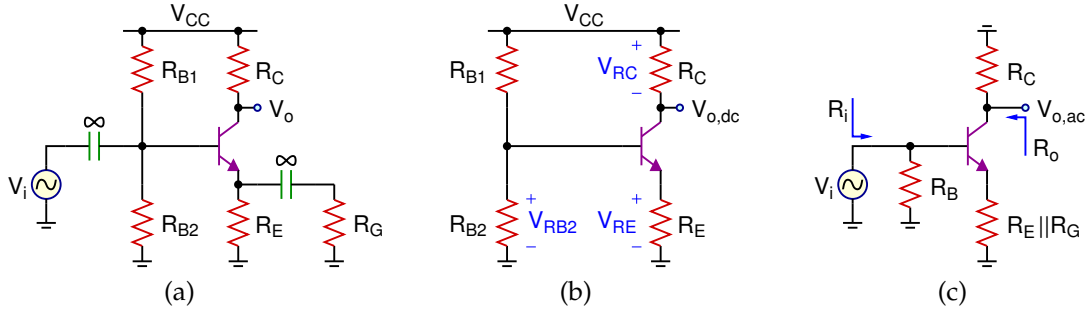
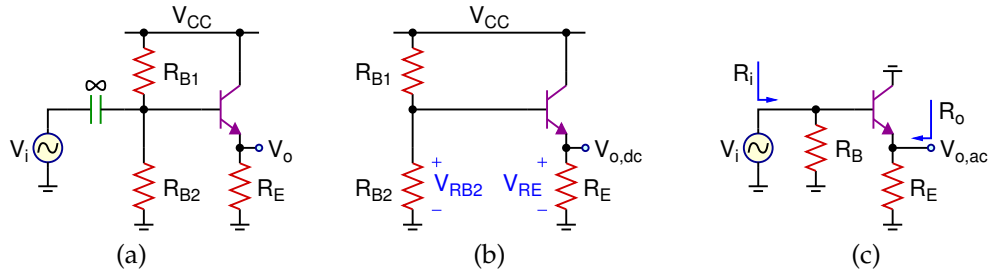
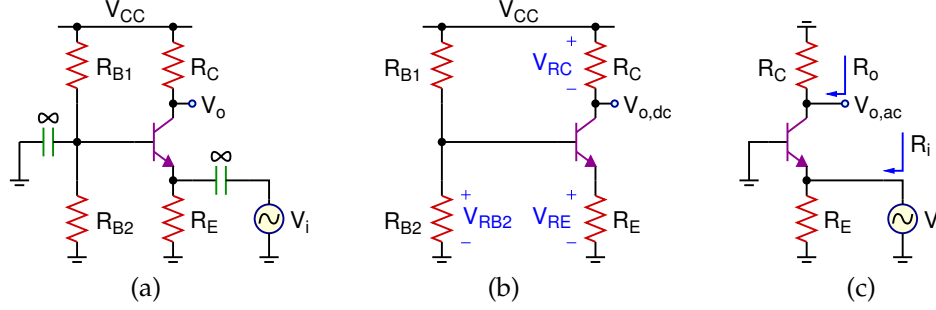

Figure 4: (a) NPN Common-Emitter Configuration (b) DC equivalent (c) AC equivalent
Figure 6: (a) NPN Common-Collector (Emitter-Follower) Configuration (b) DC equivalent (c) AC equivalent
Figure 8: (a) NPN Common-Base Configuration (b) DC equivalent (c) AC equivalent
Figures 4 and 5 show the common-emitter configurations for NPN and PNP BJTs, respectively. Analysis of this configuration yields
Based on the typical specifications, design procedure for the common-emitter amplifier in Figs. 4 and 5 can be given as follows:
Figures 6 and 7 show the common-collector configurations for NPN and PNP BJTs, respectively. Also known as the emitter-follower, analysis of this configuration yields
Figures 8 and 9 show the common-base configurations for NPN and PNP BJTs, respectively. Analysis of this configuration yields
- Design the common-emitter amplifier in Fig. 4(a) with the following specifications:
- Using the same R_{B1} , R_{B2} and R_E values from your common-emitter amplifier, calculate A_v , R_i and R_o for the emitter follower in Fig. 6.
- Using the same R_{B1} , R_{B2} , R_C and R_E values from your common-emitter amplifier, calculate A_v , R_i and R_o for the common-base amplifier in Fig. 8.
1. Draw the common-emitter amplifier schematics in Figs. 4(a) and 5(a) using the calculated component values and 2N3904 and 2N3906 transistors. For both circuits,
2. Draw the emitter-follower schematics in Figs. 6(a) and 7(a) using the calculated component values and 2N3904 and 2N3906 transistors. For both circuits,
3. Draw the common-base amplifier schematics in Figs. 8(a) and 9(a) using the calculated component values and 2N3904 and 2N3906 transistors. For both circuits,
1. Build the common-emitter amplifiers in Figs. 4(a) and 5(a) using the simulated component values and 2N3904 and 2N3906 transistors. For both circuits,
2. Build the emitter-follower circuits in Figs. 6(a) and 7(a) using the simulated component values and 2N3904 and 2N3906 transistors. For both circuits,
3. Build the common-base amplifiers in Figs. 8(a) and 9(a) using the simulated component values and 2N3904 and 2N3906 transistors. For both circuits,
1. Build the common-emitter amplifier circuits in Figs. 4(a) and 5(a) on your breadboard and bring it to your lab session. Be prepared to convert these two circuits into emitter followers in Figs. 6(a) and 7(a), and common-base amplifiers in Figs. 8(a) and 9(a).
4. For the common-emitter amplifiers in Figs. 4(a) and 5(a):
5. Convert Figs. 4(a) and 5(a) to Figs. 6(a) and 7(a) by short-circuiting R_C with a wire and removing the bypass capacitor at the emitter, then
6. Remove the wire short-circuiting R_C , add the bypass capacitor back to the emitter, remove R_C , and AC-ground the base through the capacitor to obtain the common-base amplifiers in Figs. 8(a) and 9(a), then